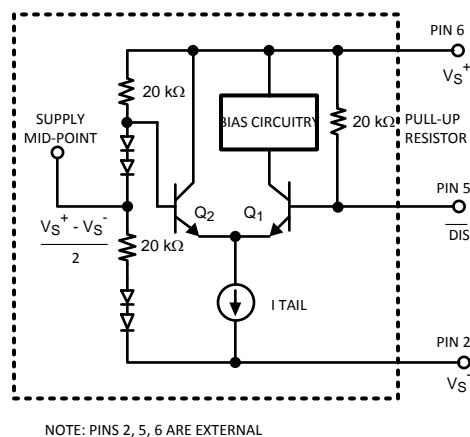

Figure 22. DIS Pin Simplified Schematic
The LMH6704 has a TTL logic compatible disable function. Apply a logic low ($<0.8\text{V}$) to the DS pin and the LMH6704 is disabled. Apply a logic high ($>2.0\text{V}$), or let the pin float and the LMH6704 is enabled. Voltage, not current, at the Disable pin (DS) determines the enable/disable state. Care must be exercised to prevent the disable pin voltage from going more than $.8\text{V}$ below the midpoint of the supply voltages (0V with split supplies, $V^+/2$ with single supply biasing). Doing so could cause transistor Q1 to Zener resulting in damage to the disable circuit (See Figure 22 or the simplified internal schematic diagram using SOT-23 package pin numbers). The core amplifier is unaffected by this, but the disable operation could become permanently slower as a result.